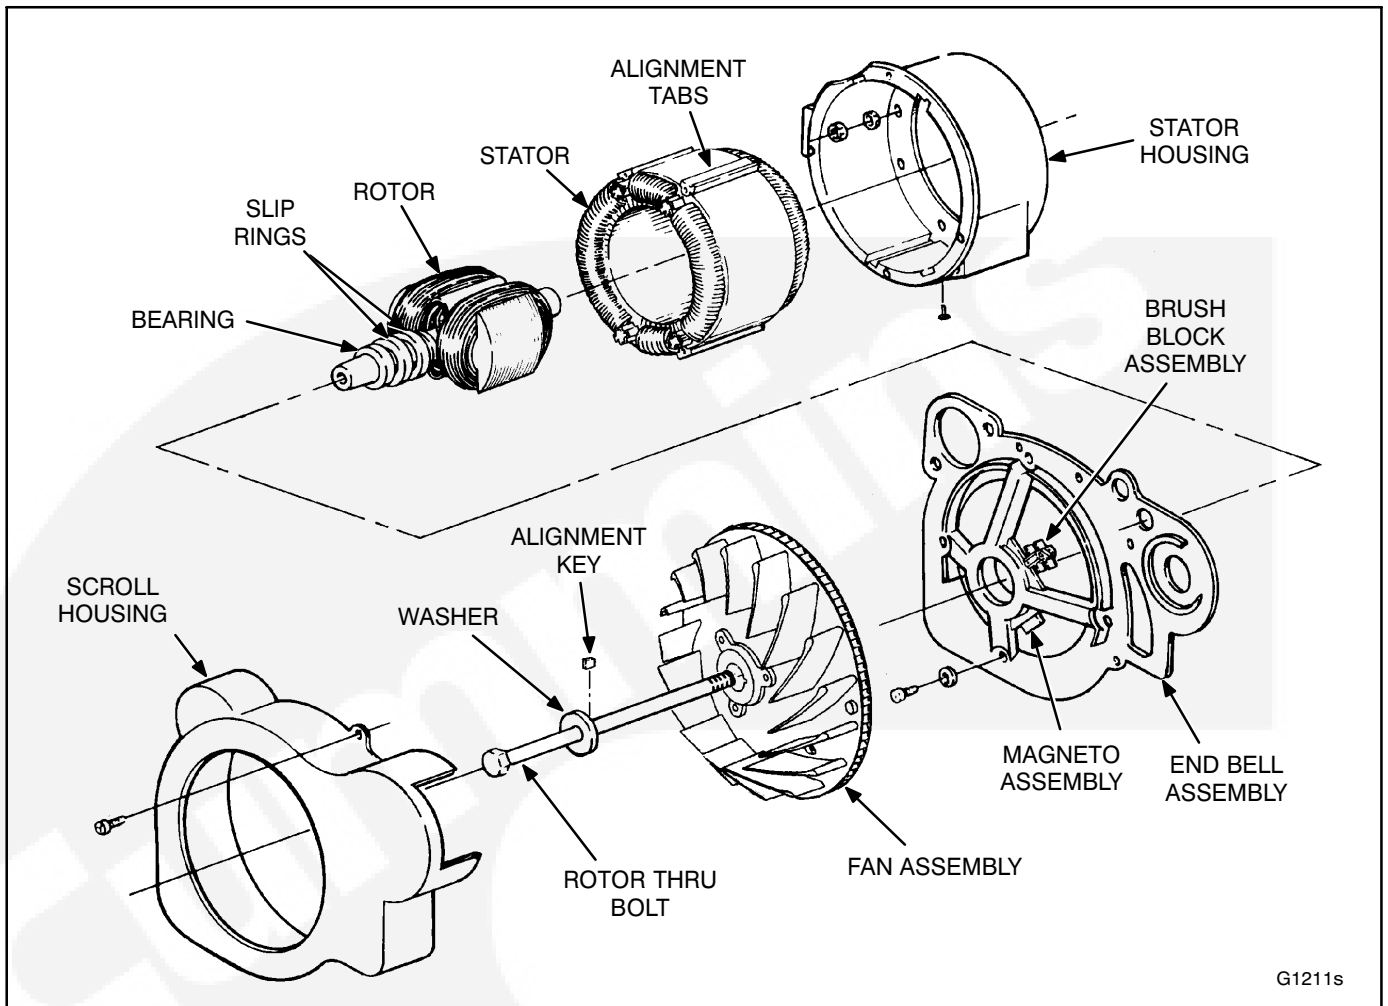

FIGURE 9-1. GENERATOR
The rotor consists of a stack of laminations wrapped in a field winding, a shaft through the laminations, molded slip rings on the shaft and a bearing pressed on the shaft. The entire assembly is connected directly to the tapered engine crankshaft by means of a throughbolt. The rotor is supported on the other end by the endbell, which is placed over the bearing and secured to the stator housing (Figure 9-1).
This section covers generator disassembly and assembly procedures. Refer to Figure 9-1 to identify the various generator components described in each sub-section.
8. Remove the air filter cover, retainer, and filter (Figure 8-15 on Page 8-15). Remove the scroll housing from the endbell (Figure 9-1).